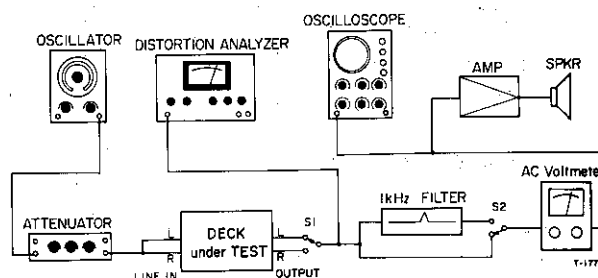

Fig. 5-1 Basic test setup
16. Erase efficiency	• Connection is same as in Fig. 5-1, but engage 1-kHz filter. • Record a 1-kHz signal. Rewind tape to midpoint of recorded portion. Record a "no signal" portion. Find the difference between the 1-kHz portion and the "no-signal" portion.
17. REC MUTE function	• Connection: Fig. 5-1, but engage 1-kHz filter. • Record a 1-kHz signal. Push REC MUTE button for several seconds. Rewind and play the tape. Find the difference between the 1-kHz portion and the "no-signal" portion.
18. Channel separation	• Connection: Fig. 5-1, but do not connect LINE IN (R), and engage 1-kHz filter. • Set the deck to record mode. Find the difference between the 1-kHz recorded portion (L-ch) and the "no signal" portion (R-ch).
19. Adjacent track crosstalk	• Connection: Fig. 5-1, but do not connect LINE IN (L) and OUTPUT (L). • Record a 125-Hz signal on R-ch and note output level. Invert tape and play R-ch track. Check leakage level against the output reference of previously recorded portion.